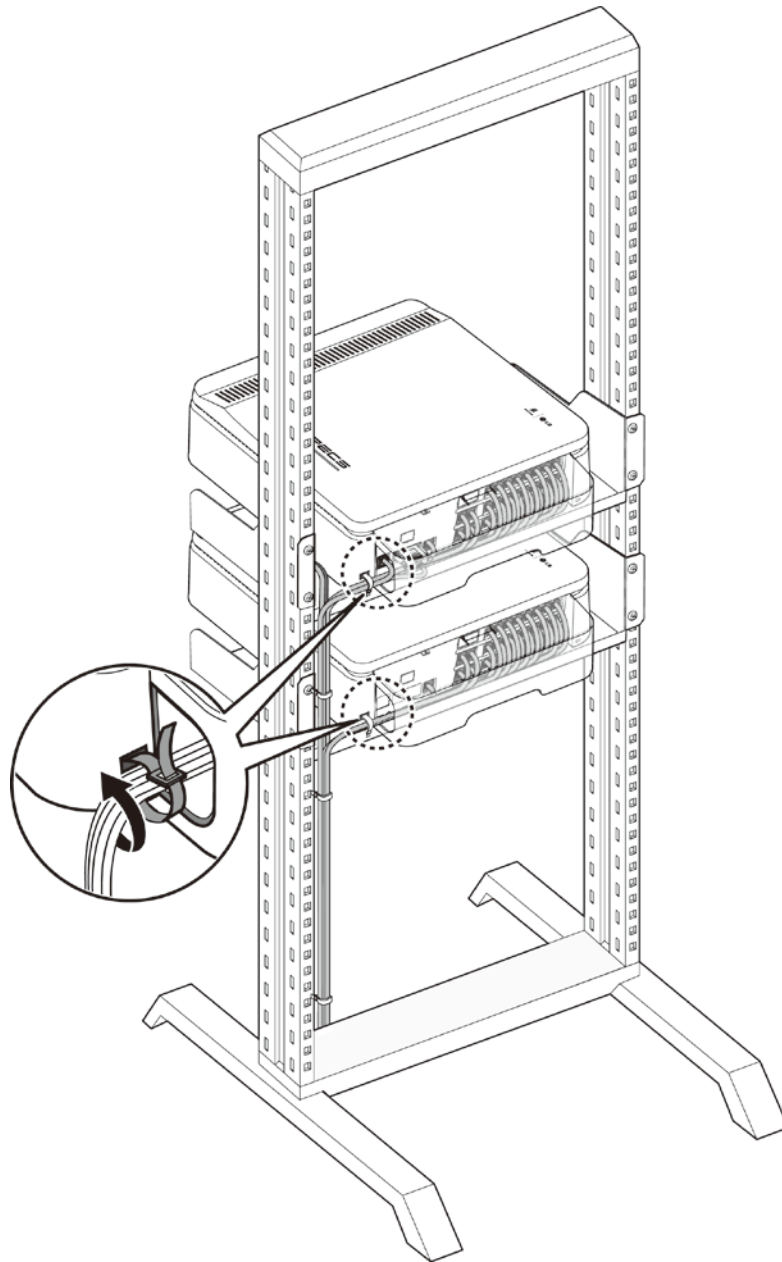

Figure 6.9.2-1 Rack Mount Wiring
3. Using the supplied cable ties, tie all wiring to the slot at the bottom-right side of the KSUs as shown in Figure 6.9.2-1.